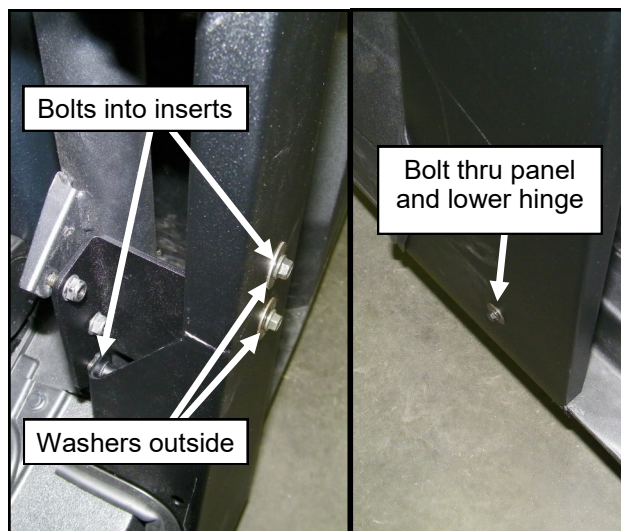

Fig. 5.2 (B-pillar panel)
**5.2** Per fig. 5.2, place the left B-pillar panel against the center vertical tube of the ROPS and align the holes in the panel to the threaded inserts of the B-pillar bracket. Insert (3) 1/4-20 bolts with washers on the outer bolts into the threaded inserts and leave loose. Place one 1/4-20 bolt with washer through the hole in the lower B-pillar and through the lower rear hinge and secure with a nut inside, leave loose. Repeat for the right side.